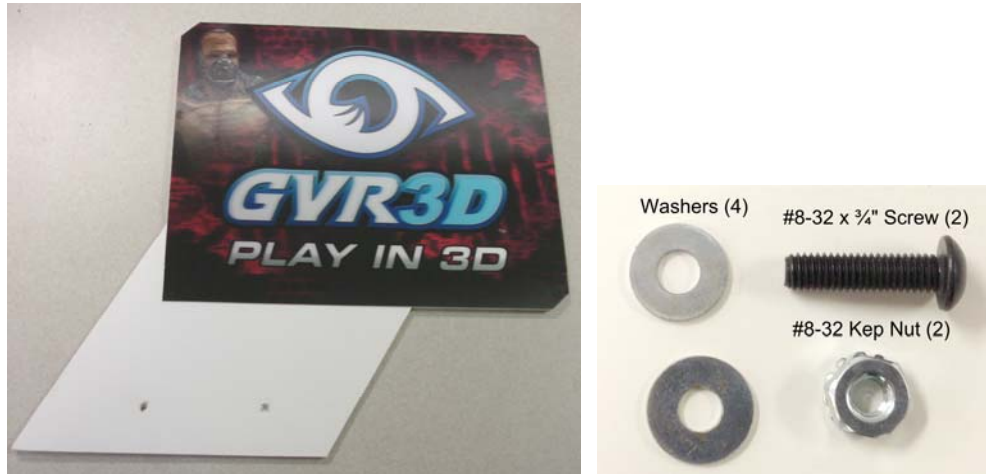

Figure 7: Optional GVR3D Sign and Mounting Hardware
1. Refer to Figure 7 for the hardware used to mount the GVR3D Sign. Position the GVR3D Sign on the top right corner of the marquee assembly so that the pre-drilled holes align.
2. Place a washer on each of the two (2) #8-32 x 3/4" screws and insert them through the pre-drilled holes. Secure the sign from the back of the marquee assembly with a washer and Kep nut.